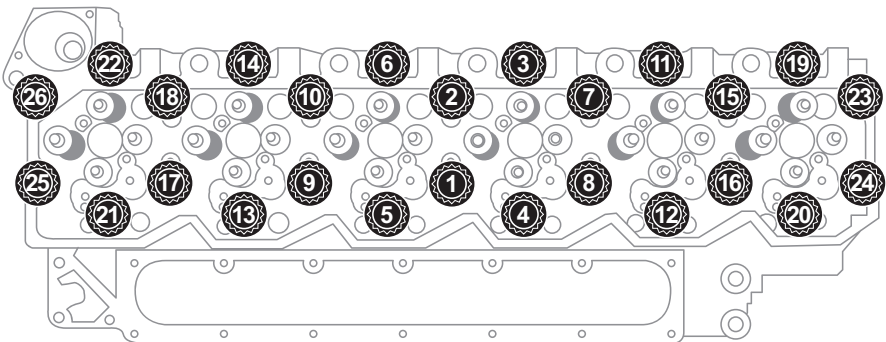

Fig.2
*Install Studs into the block. Hand-tighten without tools (equivalent of 20-30 in. lbs.). The short M12 (A) studs in this kit are installed along the exhaust manifold side of the cylinder heads in the number 22, 14, 6, 3, 11 and 19 positions of the torque sequence. The long M12 (C) studs in this kit are installed along the intake manifold side of the cylinder heads in the number 21, 13, 5, 4, 12 and 20 positions of the torque sequence. **Fig.2***